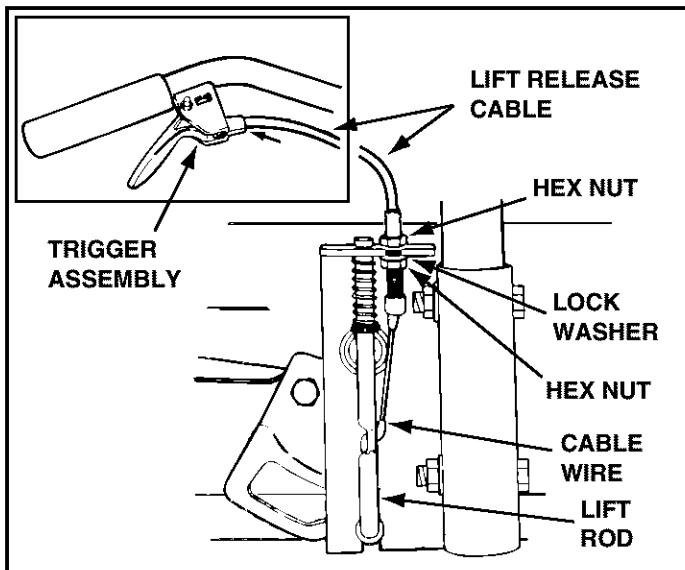

FIGURE 16
- Push the lift handle down into the locked position. Insert the end of the cable wire into the hole in the lift rod. Place the threaded fitting into the slot in the lift bracket, with one hex nut above and one hex nut and the lock washer below the slot. Tighten the nuts, adjusting them to eliminate slack in the cable wire. See figure 16. Refer also to the Service and Adjustments section on page 17 in this manual.